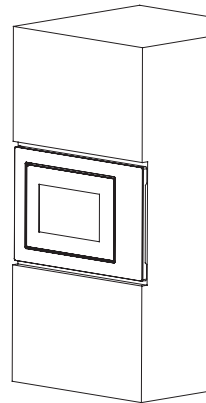

Fig. 2
- b) Push the microwave oven till to the end. (Fig.2)